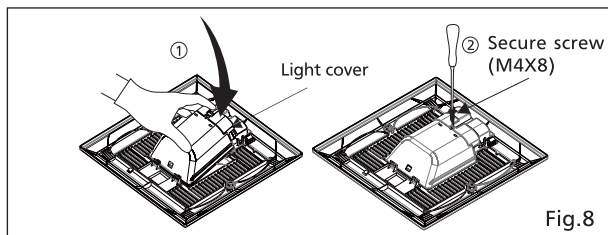

Fig.8
10. Install light cover. (Fig.8)
5. Install light cover. (Fig.8 of page 9)